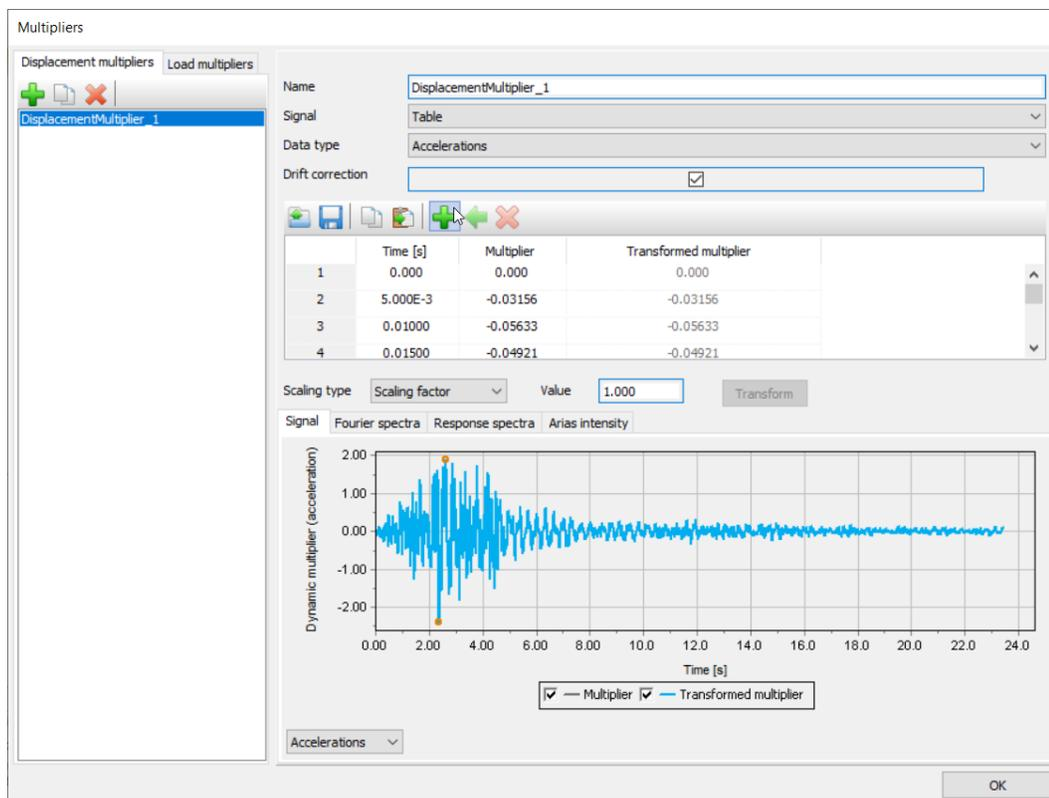

Figure 134: Dynamic multipliers window
9. In the **Dynamic multipliers** window the table and the plot of the data is displayed (See Figure 134 (on page 165)).